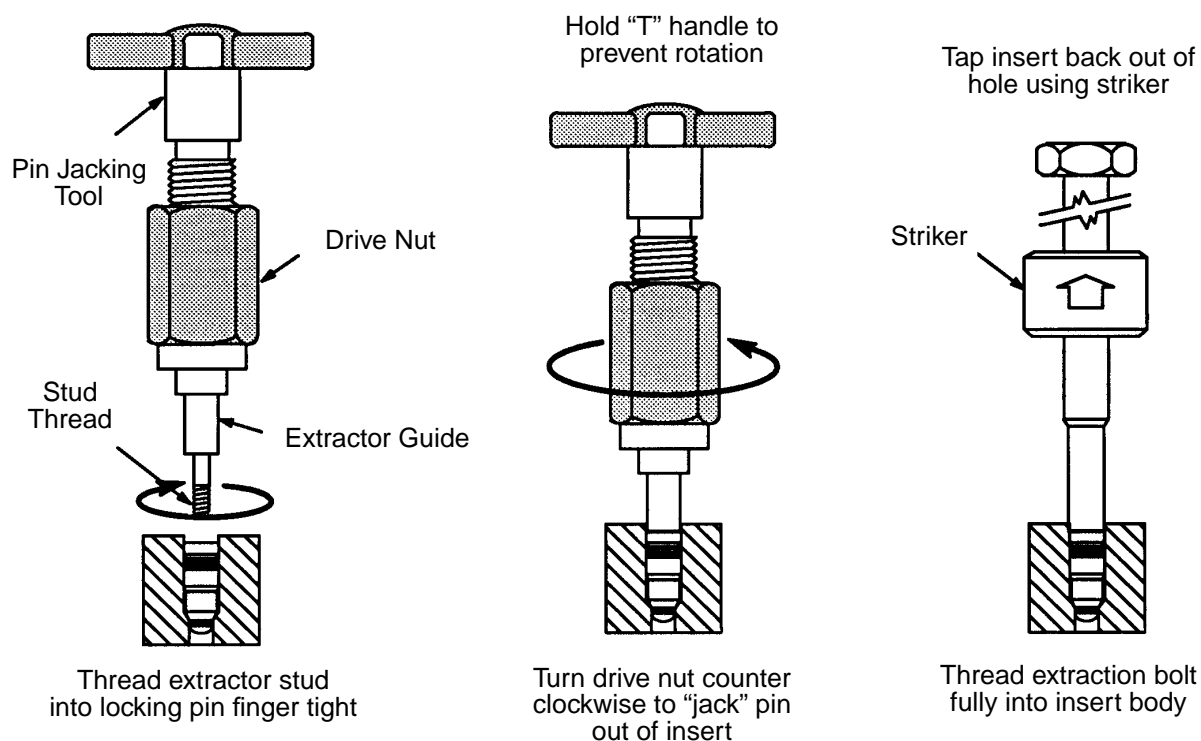

Figure 9 - Removal of Lee Jets
5.6.1 If necessary, remove Lee jets from components as follows (see Figure 9):